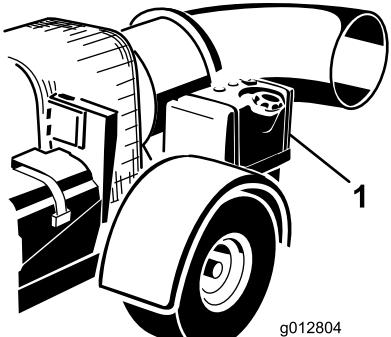

Figure 11
2. Clean the area around the fuel tank cap and remove the cap (Figure 11).